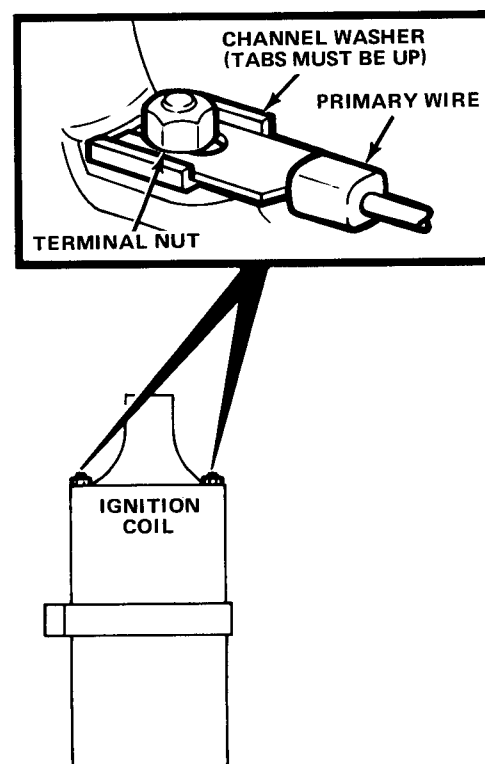

Fig. 3-52 Coil Primary Connections
(4) Inspect coil primary connections for looseness an proper assembly sequence (fig. 3-52). Wire terminal(s) must be between channel washer and nut. Channel washer tabs must be up. Reposition and tighten if required.